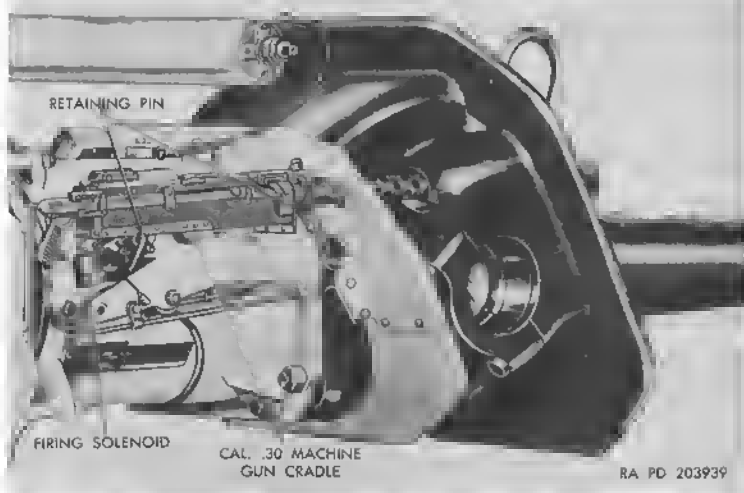

Figure 4. Cal. .30 machine gun cradle.
a. Installation of Gun in Tank. Place the cal. .30 machine gun M37 in the machine gun cradle (fig. 4) on the right side of the combination gun mount. Aline the front mounting holes in the gun and mount and insert the machine gun front locking pin. Swing the machine gun elevating and traversing mechanism up to aline its mounting hole with the rear mounting hole of the machine gun and insert the machine gun rear locking pin. Connect the firing cable to the machine gun firing solenoid mounted on the cradle. The gun is fired electrically by a solenoid which is operated by switches located on gunner's and commander's control handles.